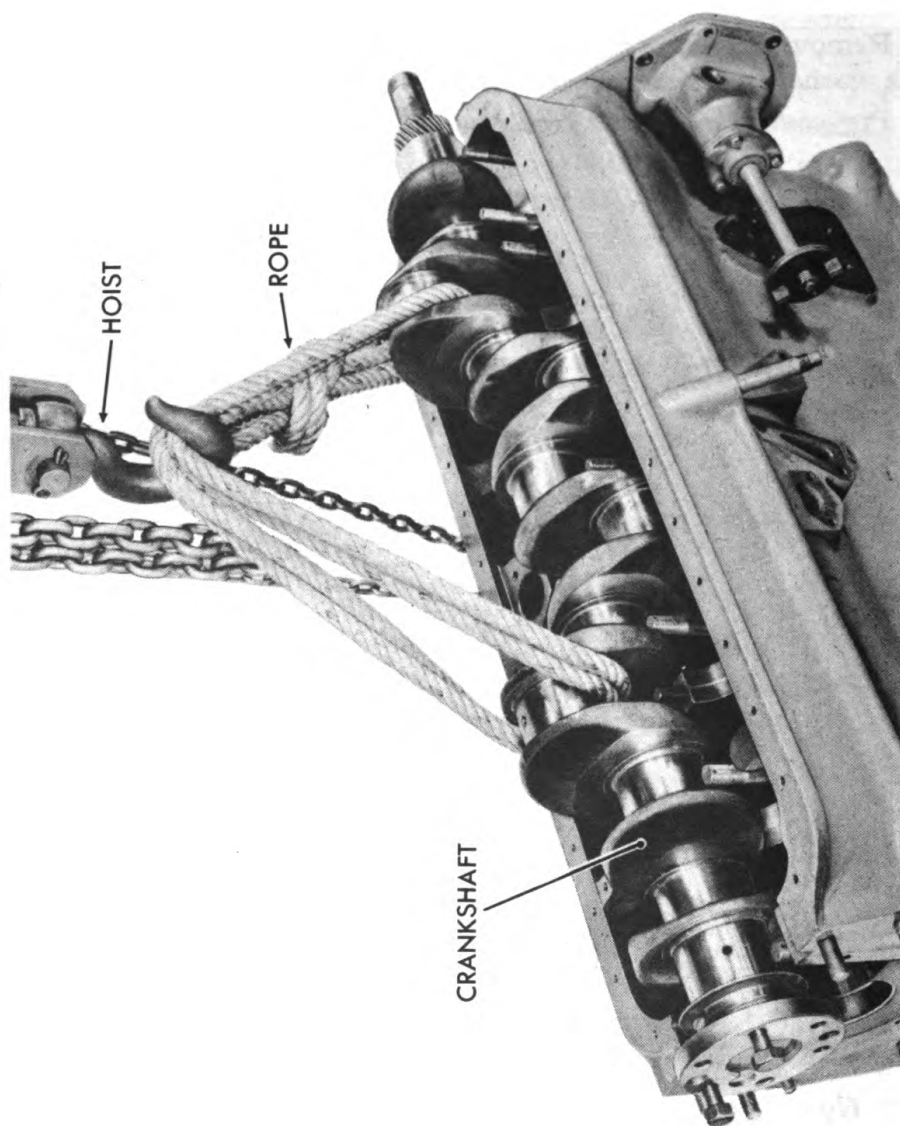

Figure 47 — Lifting Crankshaft from Crankcase
- (5) LIFT CRANKSHAFT FROM CRANKCASE (fig. 47).